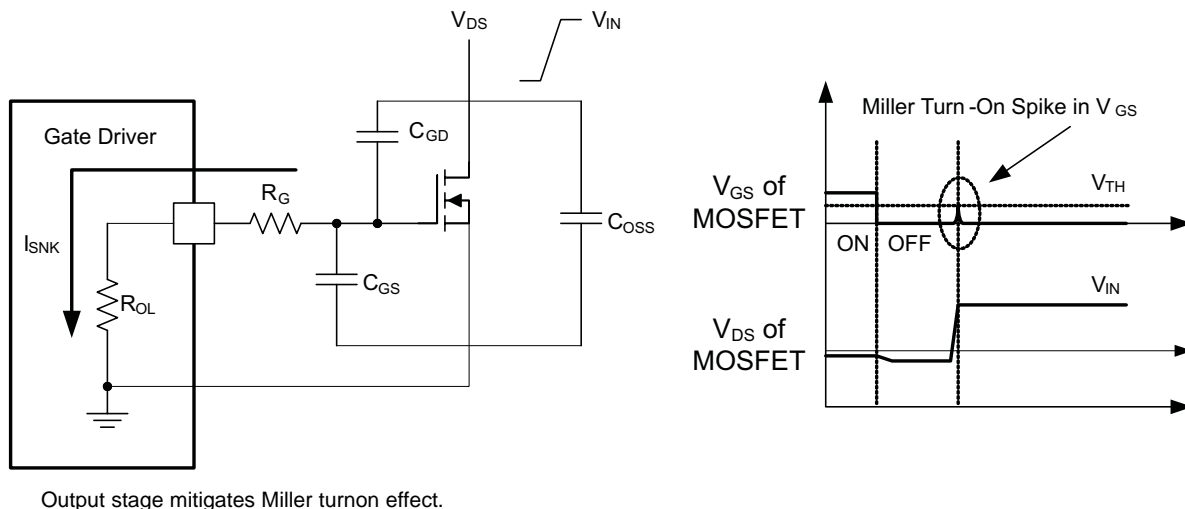

Figure 13. Low-Pulldown Impedance in UCC27611, 4-A and 6-A Asymmetrical Drive
An example of a situation where Miller turnon is a concern is synchronous rectification (SR). In SR application, the dV/dt occurs on MOSFET drain when the MOSFET is already held in OFF state by the gate driver. The current discharging the C_{GD} Miller capacitance during this dV/dt is shunted by the pulldown stage of the driver. If the pulldown impedance is not low enough, then a voltage spike can result in the V_{GS} of the MOSFET, which can result in spurious turnon. This phenomenon is illustrated in Figure 13. UCC27611 offers a best-in-class, $0.35\text{-}\Omega$ (typ) pulldown impedance boosting immunity against Miller turnon.